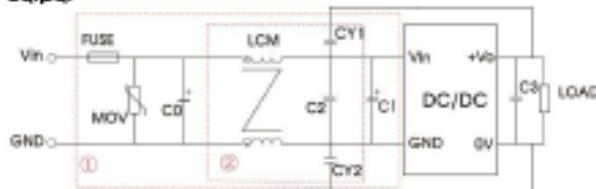

Fig. 6
Note: Part ① in the Fig. 6 is used for BMC test and part ② for EMI filtering; selected based on needs.